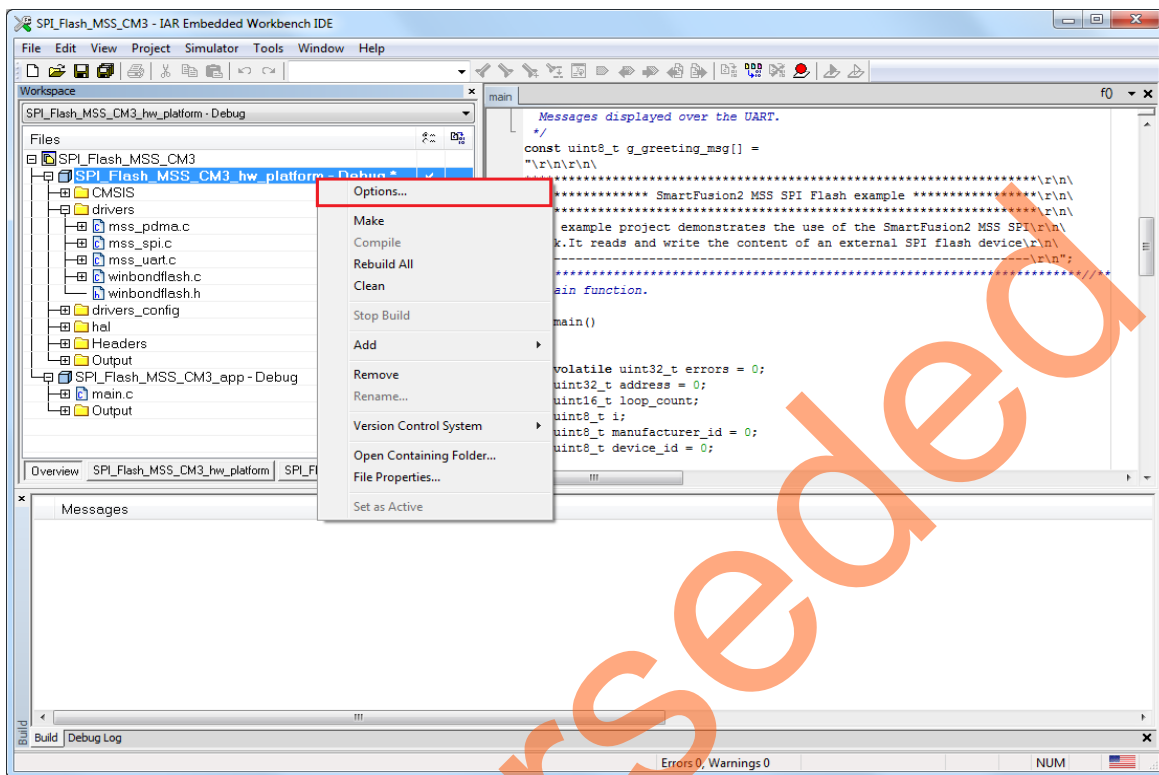

Figure 25 • IAR Workspace Window - Choose Options
8. To configure the project, right-click the project name (SPI_Flash_MSS_CM3_hw_platform) and click **Options** as shown in Figure 25.